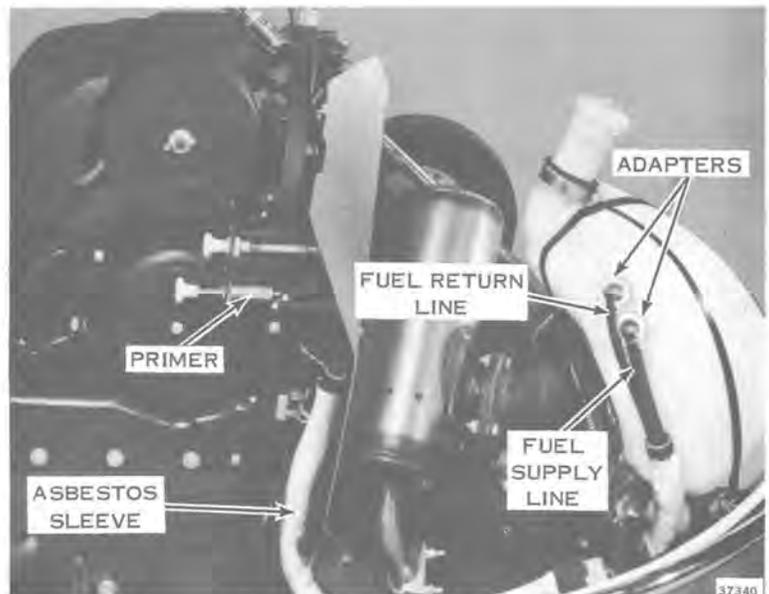

Figure 6-10
- c. Drain and clean the fuel tank prior to off season storage. Remove straps and turn tank upside down. Remove adapter and fuel pick-up line in tank to check and clean filter screen. If adapter was removed, it is not necessary on reassembly that the adapter seat be tight against the end of the threaded boss on the fuel tank. Apply G.E. RTV-102 silastic adhesive sealer on adapter threads and immediately install to fuel tank. See Figure 6-10.